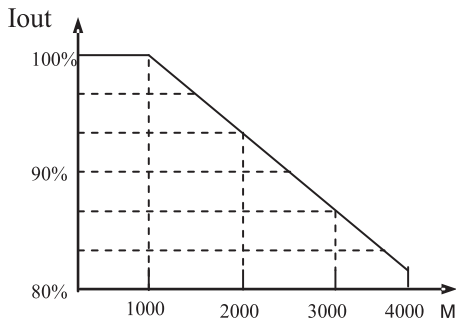

Figure 1-4 Diagram of Inverter Derating Curve
- Due to thin air in a place where the altitude is higher than 1,000m, the heat dissipation of inverter will be less effective. Hence derating should be done before use. In general, when the height rises by 1,000m, the rated voltage of the inverter shall reduce by 10%. Refer to the Figure 1-4 for details of the derating